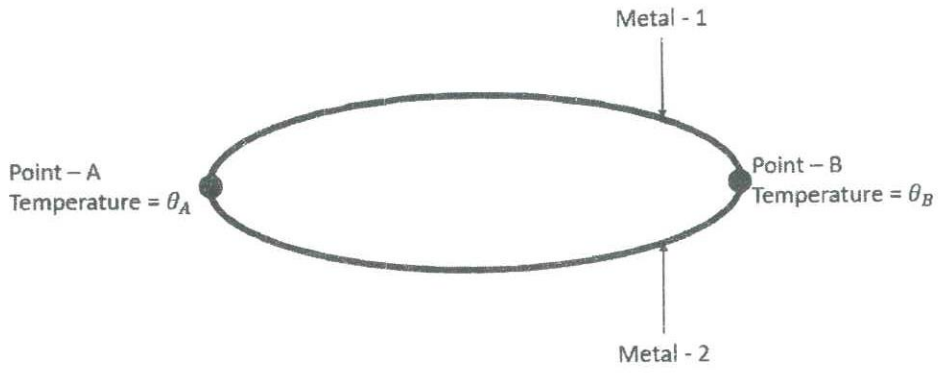

Figure Q3.b)
- b) i. Figure Q3.b). illustrates a thermocouple. Write down an equation for generated voltage between two junctions by using the Peltier effect. Make sure to define all the notations which are used (eg:  $e_A$  = EMF generated at junction point A) and number the equation as Equation 1. [1.0 Mark]